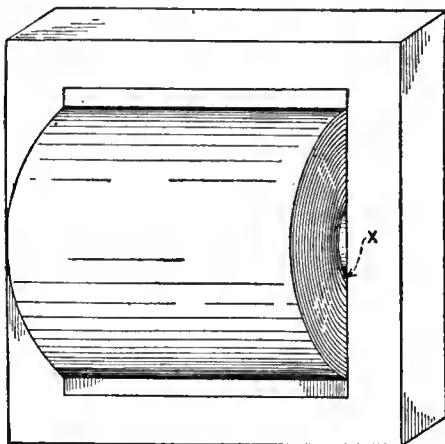

Fig. 1—The point marked "X" in this drawing shows where electrolysis takes place in an a.f. transformer.
The grounded core is a cathode, separated from the first few layers of the primary, an anode, by a very short distance (see Figs. 1 and 2). Assuming that it is twenty times nearer than any other cathode, electrolysis will then take place twenty times faster, which means that, other factors being the same, the transformer with a grounded core will have a life only  $\frac{1}{20}$  as long as one with an ungrounded core. Incidentally this electrolysis goes on all the time the primary is maintained at a positive potential, which, in the case of a battery-operated set, is all the time, whether the set is turned on or not. In the case of sets securing B voltage from the house current, it takes place only while the set is turned on.
**B**EFORE GETTING down to the main discussion I should like to make a suggestion as to the usefulness of dividing one's wavemeters into two classes. A good example is found in the practice of the Radio Frequency Laboratories, Inc. The precision meters of this establishment are reserved for precision work; during the preliminary adjustments simple and convenient knockabout wavemeters, such as shown in the picture (Fig. 1), are used. If one of these is damaged replacement and recalibration are easy and prompt. To save guesses, I will explain that the two large coils are wound on General Radio type 277U forms, the variable condensers are of National Company make, and the two smaller coils are of 3-16th-inch copper tubing. The long baseboard not only carries a calibration chart but also provides room for the long insulating shaft and the National type A vernier dial which materially facilitate readings. The wavelength ranges in meters in this case happen to be 1.85—6.1, 5.5—27.2, 25.0—122.5, and 118.0—565.0. Lamps are placed in the tuned circuit of the two larger wavemeters but are omitted from the smaller ones for the obvious reason that their inductance would be a considerable proportion of the total and would be changed on replacement of the lamps.
Fig. 1—Knockabout wavemeters are used at the Radio Frequency Laboratories for preliminary adjustments. This picture shows four such instruments of different wavelength ranges.